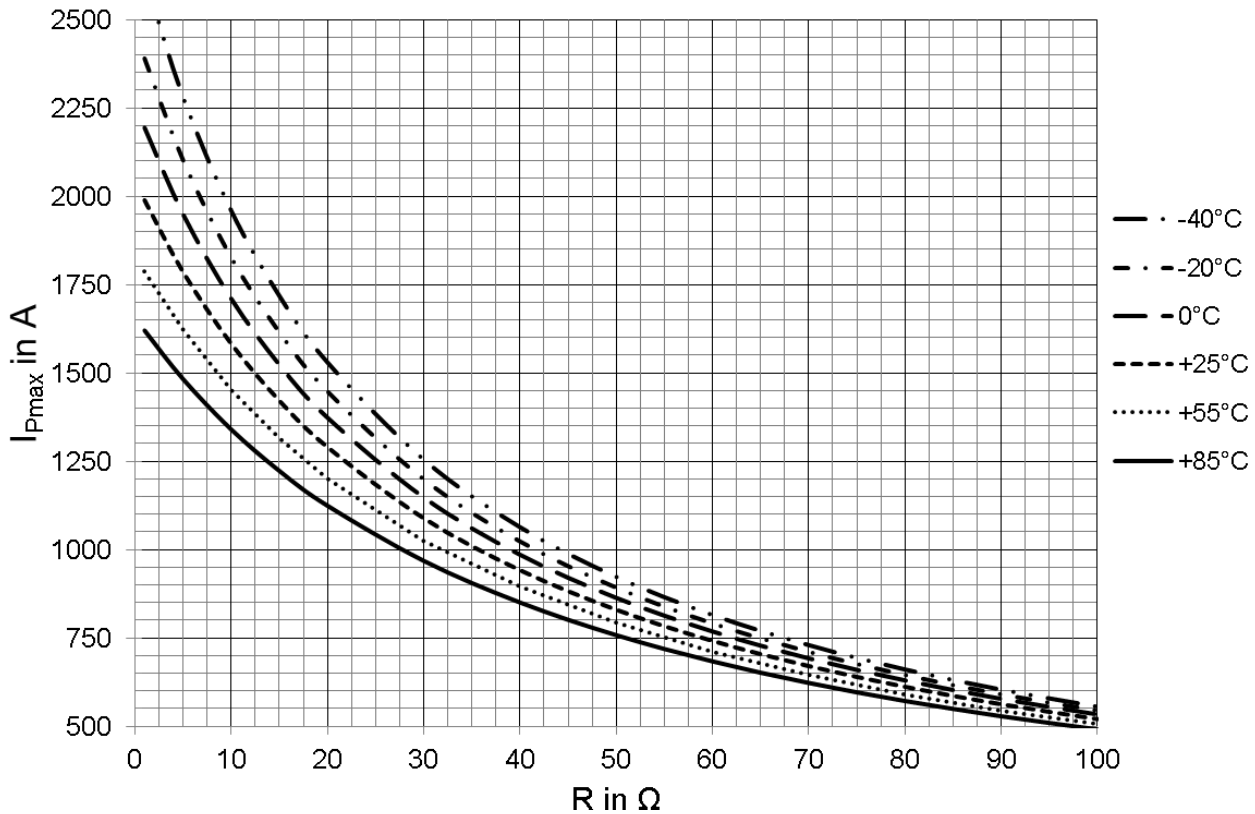

Fig. 1: $I_{P,max} = f(R_m) @T_A$
* for $I_{P,max}$ see fig. 1 on page 2